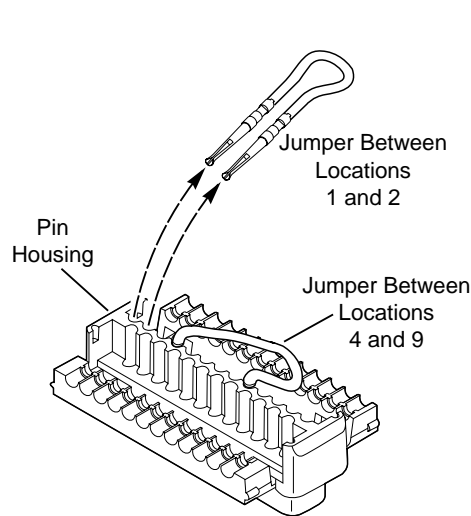

Figure 26
5. Connect the accessory wires to the accessory plug as described in the following paragraphs. Then reassemble the accessory plug as described in the paragraph below unless one of the accessories is an emergency switch. In that case, ensure that the jumper is in place between pins 4 and 9 (See Figure 26).
3. Remove the jumper wires from locations 1 and 2 in the pin housing. Leave the jumper wires between locations 4 and 9 in place (See Figure 26).